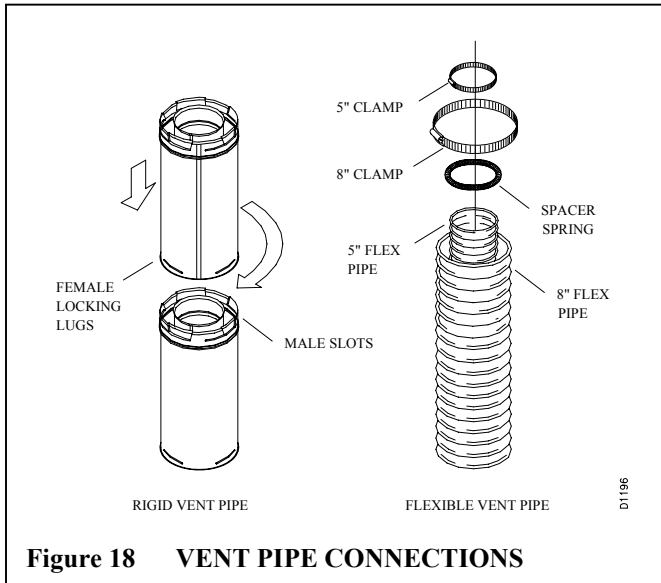

Figure 18 VENT PIPE CONNECTIONS
Twist-lock Procedure: The female ends of the pipes and fittings have four locking lugs (indentations). These lugs will slide straight into matching slots on the male ends of the adjacent pipes and fittings. (All connections must be sealed with high temperature silicone sealant as specified in the warning statement on page 7.). Push the pipe sections together and twist one section clockwise approximately one-quarter turn until the sections are fully locked (See figure 18).
2. Assemble the desired lengths of pipe and elbows necessary to reach from the fireplace flue up through the firestop. All connections must be sealed with high temperature silicone sealant as specified in the second warning statement on page 8. Be sure all pipe and elbow connections are fully twist-locked (see figure 18).